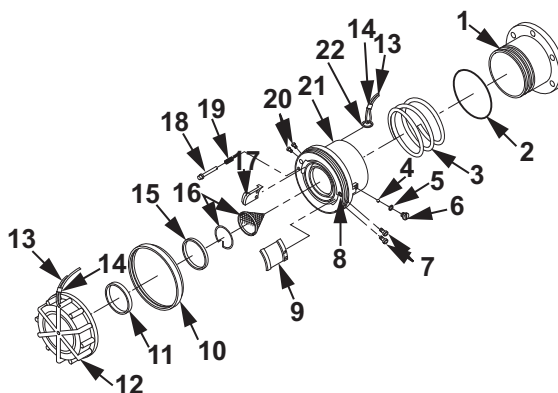

Figure 1. 2 In. Quick Disconnect Coupling Half Disassembly.
1. Remove snap ring and screen (Figure 1, Item 16).
Ball retaining screw (Figure 1, Item 6) is self-locking and is designed to be reused up to 15 times before replacement is necessary. If a torque wrench is not used to check running torque when removing the screw (Figure 1, Item 6), the screw must be replaced.
2. Using a torque wrench and screwdriver bit to check the running torque of ball retaining screw (Figure 1, Item 6). Replace ball retaining screw (Figure 1, Item 6) if the running torque is less than 3.5 in. lb (0.40 N•m).
3. Remove O-ring (Figure 1, Item 5) and discard.
4. Hold coupling (Figure 1, Item 21) over a cleaning cloth with screw hole orientated toward cleaning cloth. Rotate coupling (Figure 1, Item 21) back and forth until all 41 balls (Figure 1, Item 4) have collected in the cleaning cloth.
5. Remove coupling (Figure 1, Item 21) and O-ring (Figure 1, Item 2) from inlet adapter (Figure 1, Item 1). Discard O-ring (Figure 1, Item 2).
6. Remove spring (Figure 1, Item 3) and seal (Figure 1, Item 15) from coupling (Figure 1, Item 21). Discard seal (Figure 1, Item 15).
7. Remove ring (Figure 1, Item 22) from pin (Figure 1, Item 18).
8. Remove pin (Figure 1, Item 18) and spring (Figure 1, Item 19) from coupling (Figure 1, Item 21).
9. If the dust cap (Figure 1, Item 12) or cable (Figure 1, Item 13) is to be replaced, cut cable (Figure 1, Item 13) to remove.
10. Remove cable (Figure 1, Item 13) from ring (Figure 1, Item 22).
11. Remove seal (Figure 1, Item 11) from the dust cap (Figure 1, Item 12) and discard.
Do not remove continuity ball (Figure 1, Item 8) from coupling. If continuity ball (Figure 1, Item 8) requires replacement, the entire non-valved dry-break coupling assembly must be replaced.
Remove the bumper (Figure 1, Item 10) only if the bumper or the lugs (Figure 1, Item 9, 17) must be replaced.
12. Remove bumper (Figure 1, Item 10).
Remove the lugs (Figure 1, Item 9, 17) only if the lugs (Figure 1, Item 9, 17) must be replaced.
13. Remove screws (Figure 1, Item 7, 20) to remove lugs (Figure 1, Item 9, 17).